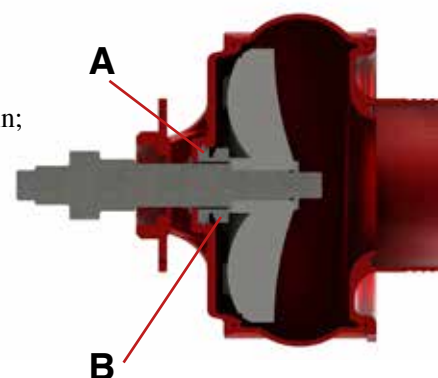

Figure 3
- 1) Insert component (A) (see Figure 3) into the seat of the screw nut support with the tungsten carbide part facing outwards pushing it in;
- 2) Insert component (B) with the tungsten carbide part facing inwards, so that the two tungsten carbide parts are in contact;
- 3) when installing the impeller be careful not to cut the rubber of component (B) during compression of the spring.